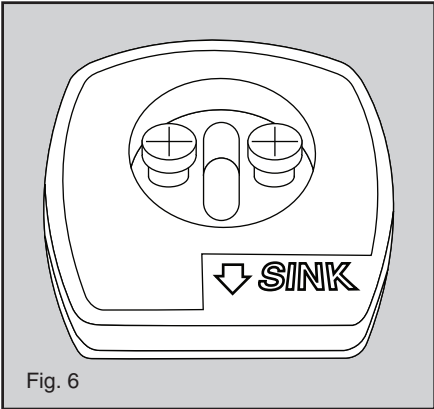

Fig. 6
- 7. Rotate the support shaft so the arrow points toward the sink (see figure 6).